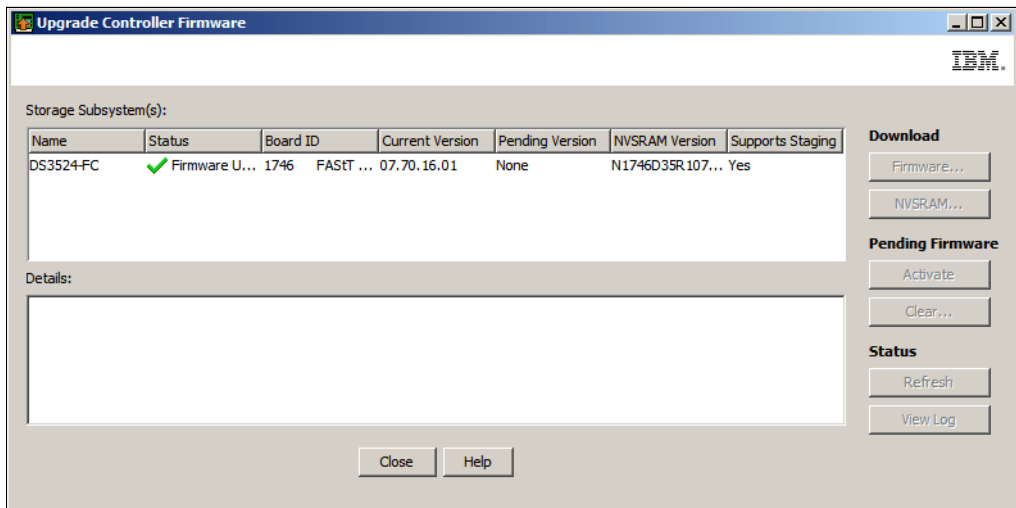

Figure 14-59 NVSRAM upgrade successful
- d. You can monitor the status of the NVSRAM upgrade in the **Upgrade Controller Firmware** window. Figure 14-59 shows the status after the NVSRAM has been transferred and activated successfully.